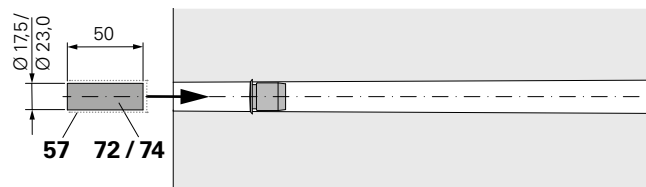

Fig. 20
3. Coat Plug 1/50 or 3/50 (**72 / 74**) on one face and the outer surface with ready-made Repoxal adhesive (**57**) and push it into the tie hole from the smaller side of the tie hole. Make sure that the adhesive-coated end face is pushed onto the flat surface of the plug. (Fig. 20)